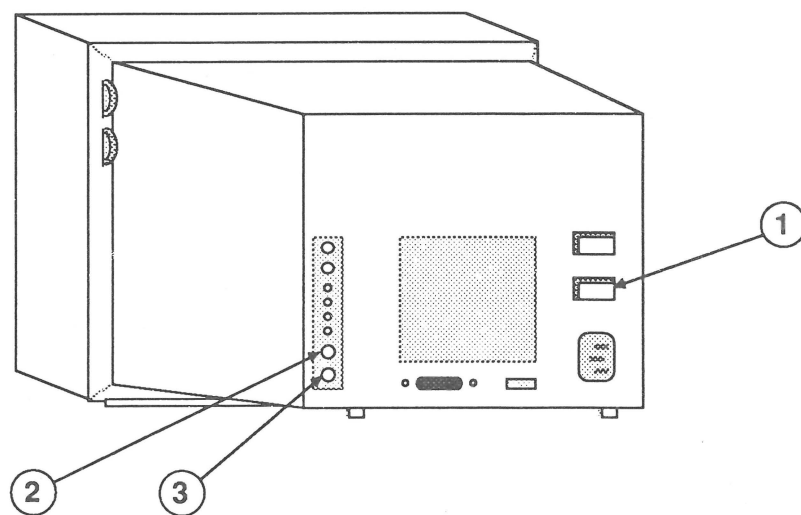

FIGURE 12
4. Press the degauss switch (Figure 12, #1), and remove the service panel cover.
5. Turn the VERTICAL STATIC CONVERGENCE (V-STAT) control (Figure 12, #2) until the color-shadowed horizontal lines of the pattern blend to solid white lines.
6. Turn the HORIZONTAL STATIC CONVERGENCE (H-STAT) control (Figure 12, #3) until the color-shadowed vertical lines of the pattern blend to solid white lines.
IMPORTANT: Perform the following steps only if horizontal convergence could not be adjusted using the HORIZONTAL STATIC CONVERGENCE (H-STAT) control (Figure 12, #3).